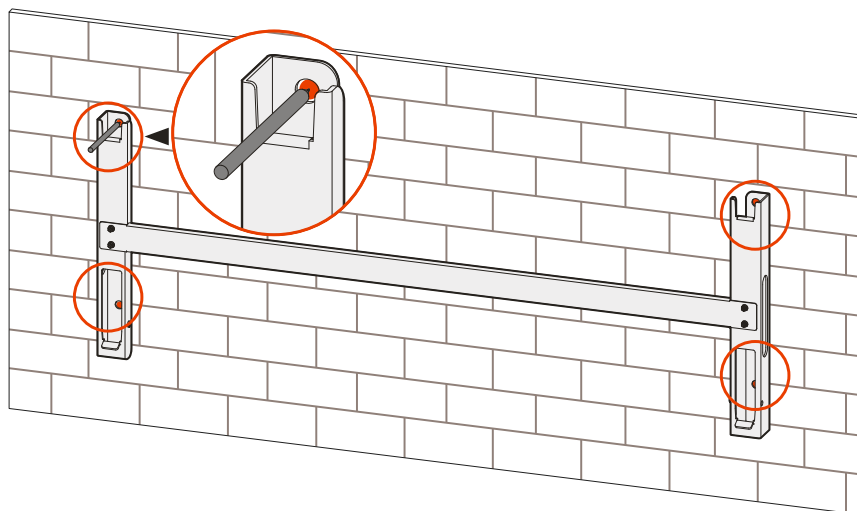

Figure3-19 Mark the mounting holes position
- Step 2 Place the assembled wall mount at the installation point, use a spirit level to adjust the angle, and mark the location of the hole on the wall, as shown in Figure3-19.